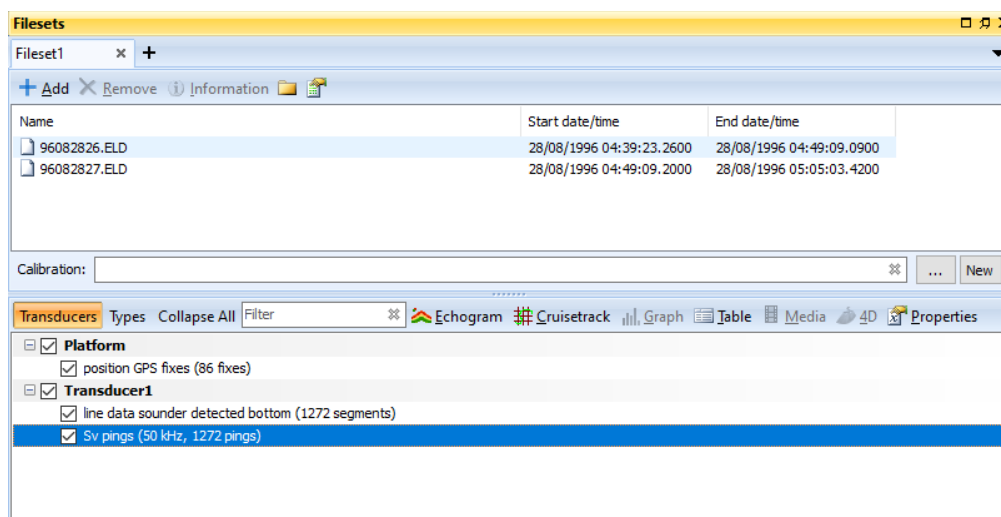

Figure 11. The Filesets window.
- Fileset A collection of data file(s) and the variable(s) derived from those data file(s). These are grouped together in the Filesets window (see Figure 11).
4. On the toolbar click on the **View** menu and select **Filesets** to display the Filesets window (Figure 11) or press F10.
The fileset for the EV file in Figure 11 contains two data files and three raw variables (Sv pings, position GPS fixes and a line data sounder-detected bottom).